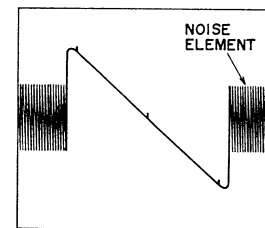

Fig. 8
- 4) Adjust the upper core of Front End IF Coil (see Fig. 18) to obtain maximum wave height value of S Curve in Fig. 8, and adjust the lower core to obtain maximum noise level.